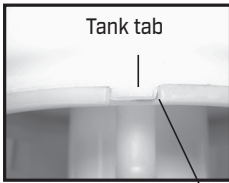

Figure 4 Pump Assembly Notch
9. Reassemble backwards from step 7 thru 2, performing each step in reverse. Note: there is a notch/tab combination in the pump assembly/tank to be used for alignment (fig. 4).